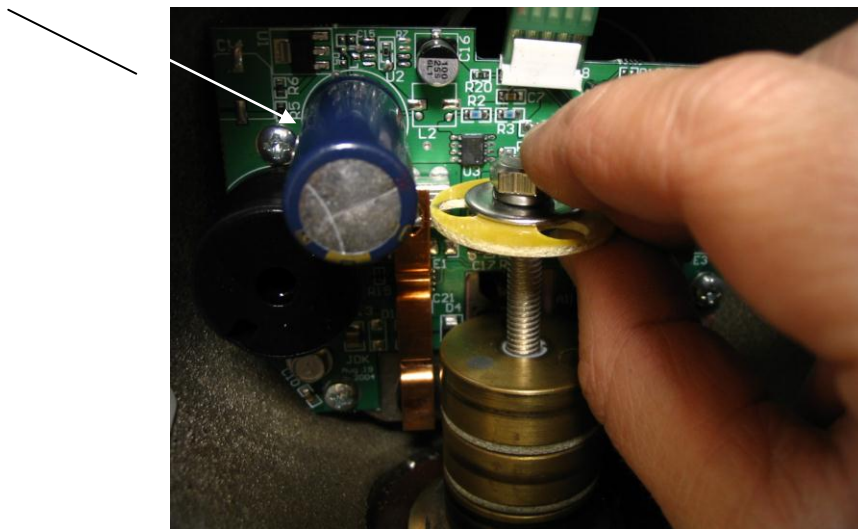

Fig.3
- a.) Remove the bolt, washers, and fiberglass spacer from the top of the slip ring assembly using a 10mm box-end wrench. See Fig.3 **NOTE: New circuit boards will have this large capacitor on the opposite side shown.**